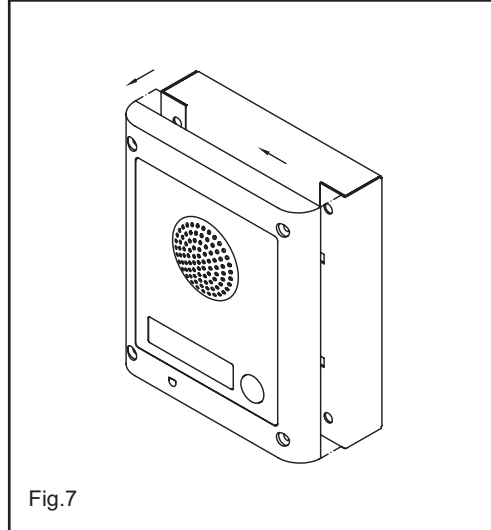

Fig.7
6. As shown in figure 7, pull back the module support frame **h** while moving it slightly to the left as suggested by the pointers;